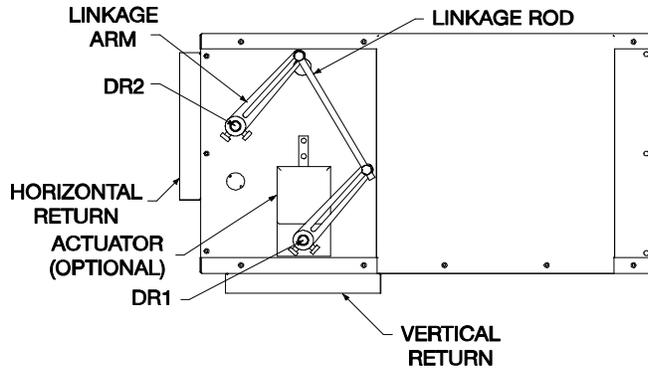

Fig. 18 — Linkage Assembly Front View (Sizes 08-12)
3. Orientate actuator to avoid interference with linkage assembly. Refer to Fig. 18 and 19.